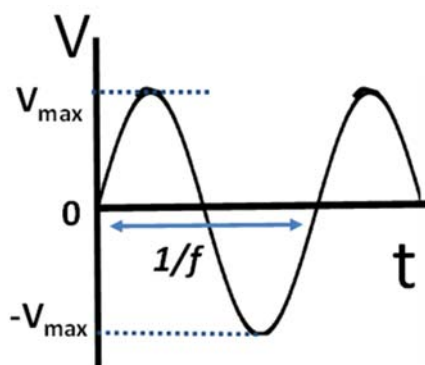

Fig. 1: Input signal waveform
Operation: Consider the input waveform shown in fig. 1. The input waveform is described by (1).